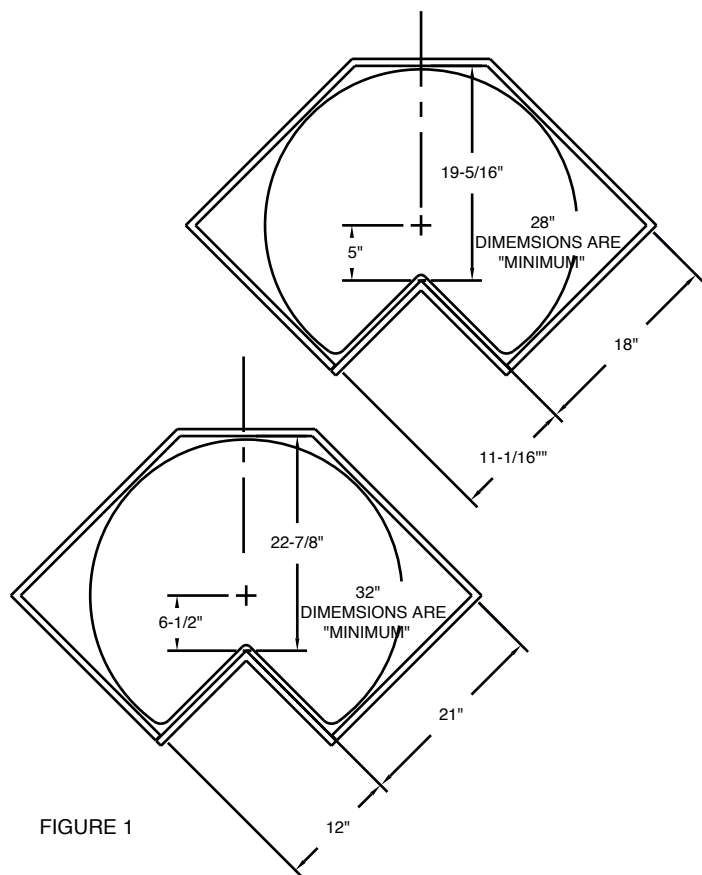
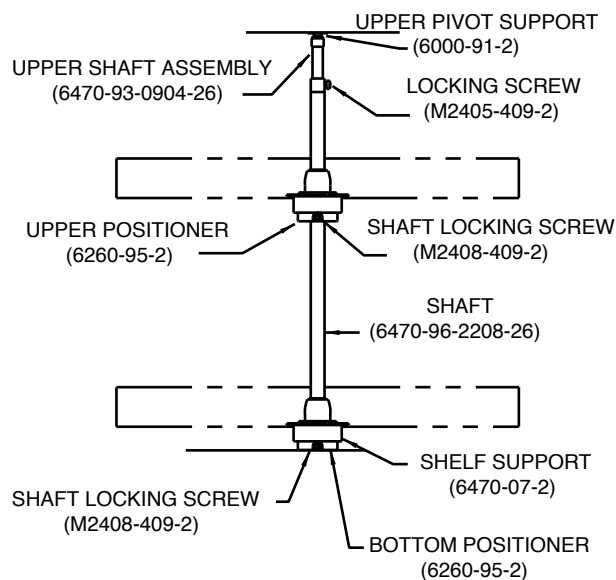

FIGURE 1
FIGURE 2
1. The dimensions shown in Figure 1. are minimum.
2. Locate the mounting holes with the template (see reverse side) and affix the bottom positioner to the cabinet floor with four (4) 3/4" x #8 (F1208-13-2) oval head screws. NOTE: Shaft locking screw must face cabinet opening.
3. Locate the mounting holes with the template and affix the upper pivot support to the underside of the cabinet top (see Figure 2) with four (4) 1/2" x #8 (F0808-26-2) oval head screws.
5. Insert the upper shaft assembly into the top end of the shaft. Loosely install the lock screw. Insert the shaft/tray assembly into the bottom positioner. Extend the upper shaft assembly to engage the upper pivot support (See Figure 2).
1. Before drilling holes, make sure there will be adequate clearance at the back of the shelf assembly (see Figure 1, reverse side).